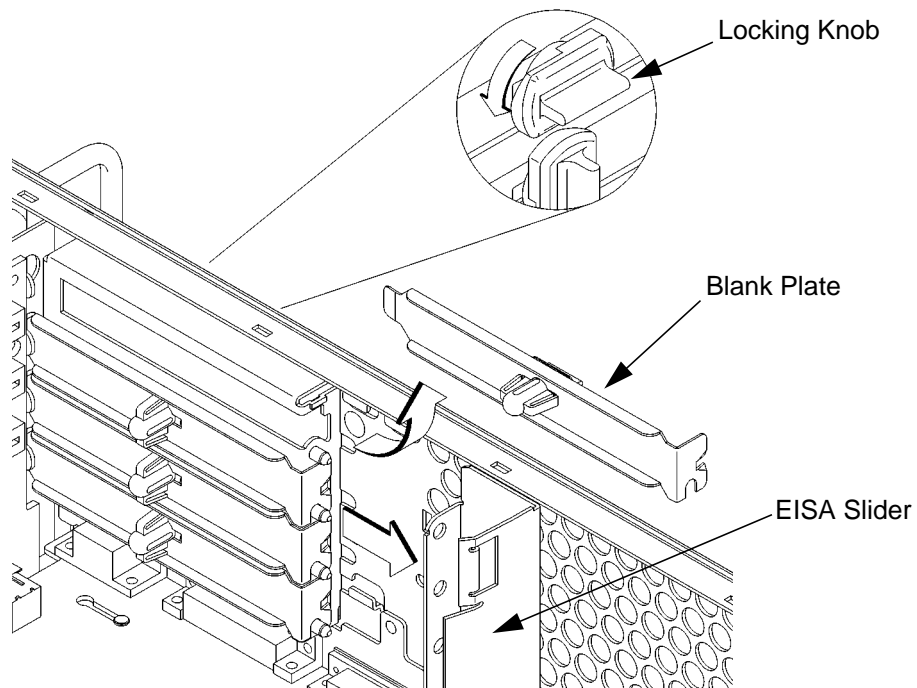

Figure 52 **Removing the EISA Slider and Blank Plate**
- 4 Remove the EISA slider, as shown in Figure 52.
- 5 In the desired EISA slot, turn the blank plate's locking knob counter-clockwise to unlock the plate, as shown in Figure 52.
- 6 Remove the blank plate from the slot, as shown in Figure 52.